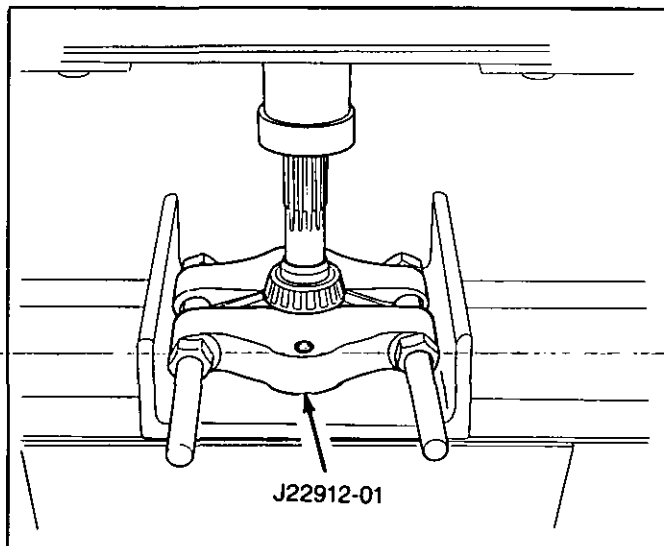

Figure 26 Front Input Bearing
1. Remove the front bearing using J-22912-01 with a press (Figure 26).